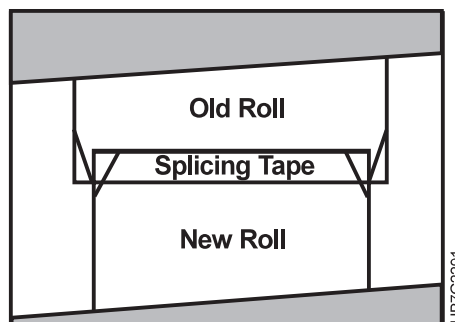

Figure 212. Width of New Roll is Smaller than Old Roll
- If the width of the new roll is *smaller* than the width of the old roll, trim the corners of *both* rolls, as shown in Figure 212.